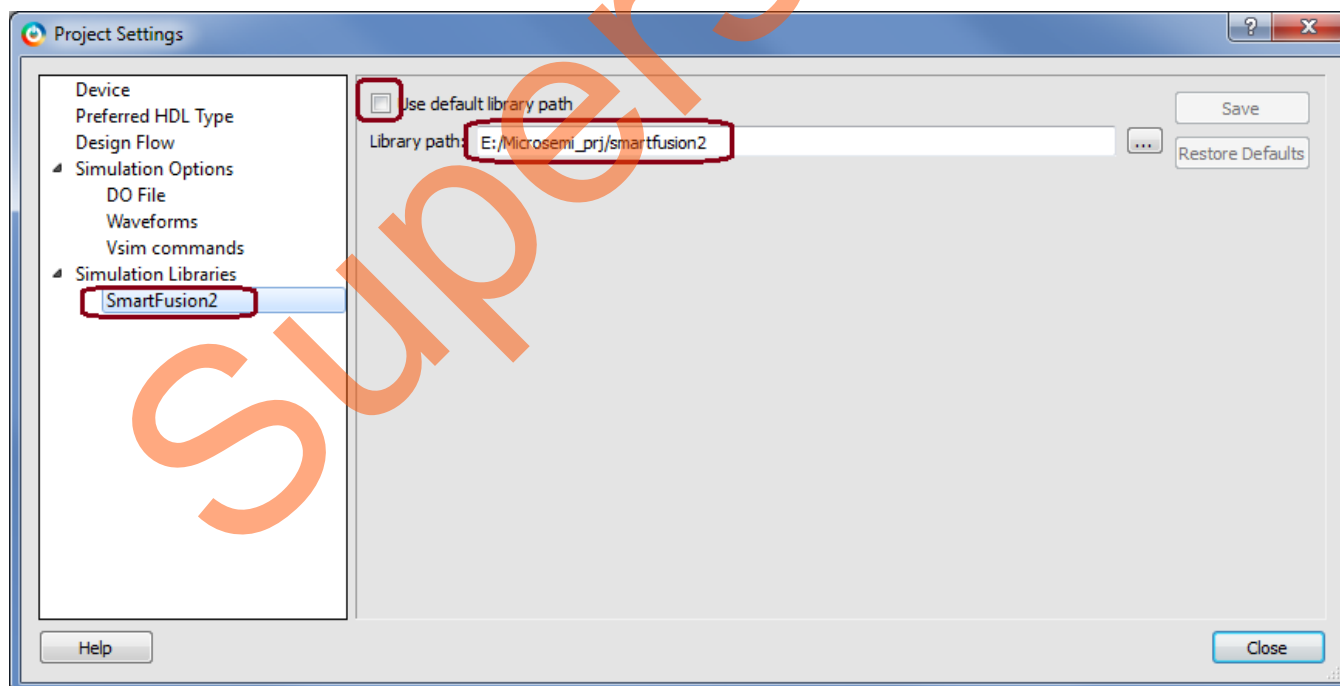

Figure 43.Project Settings – Specifying Precompiled Library Path
5. Figure 43 shows the time at which the data was written/read-back to/from the DDR3 external modules.